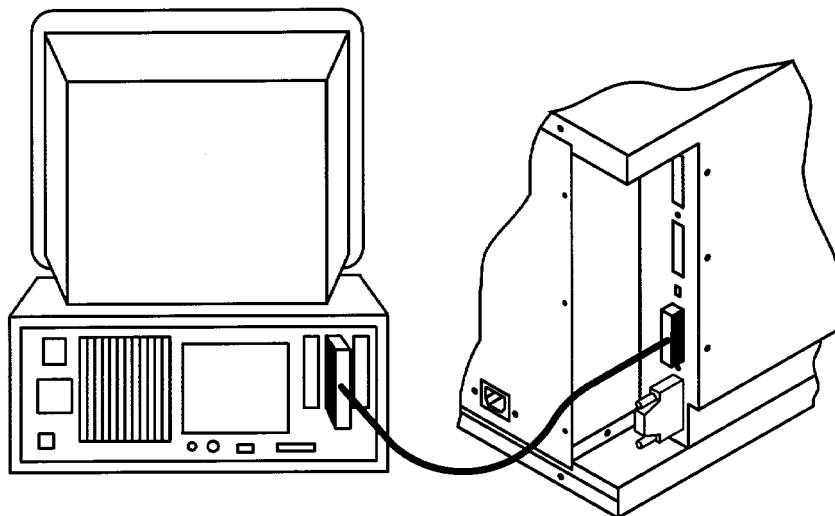

Figure 3-3. Connecting the Library as the Only Peripheral
4. Plug a SCSI terminator into the unused SCSI connector of the SCSI port set being used (see Figure 3-3).